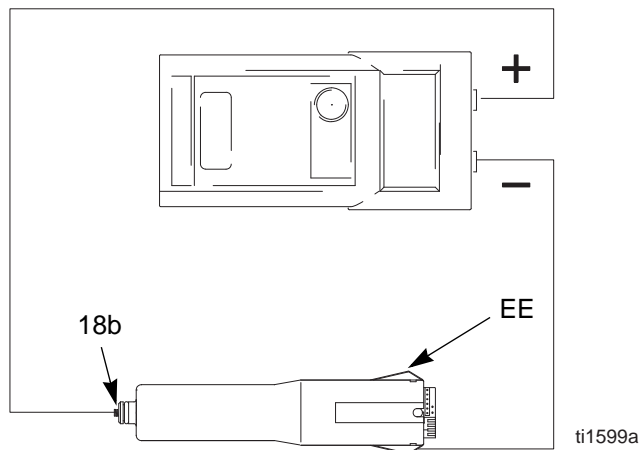

Fig. 19. Test Power Supply Resistance
2. Remove the power supply (18), page 46.
3. Remove the turbine alternator (19) from the power supply, page 47.
4. Measure resistance from the power supply's ground strips (EE) to the spring (18b). See FIG. 19..